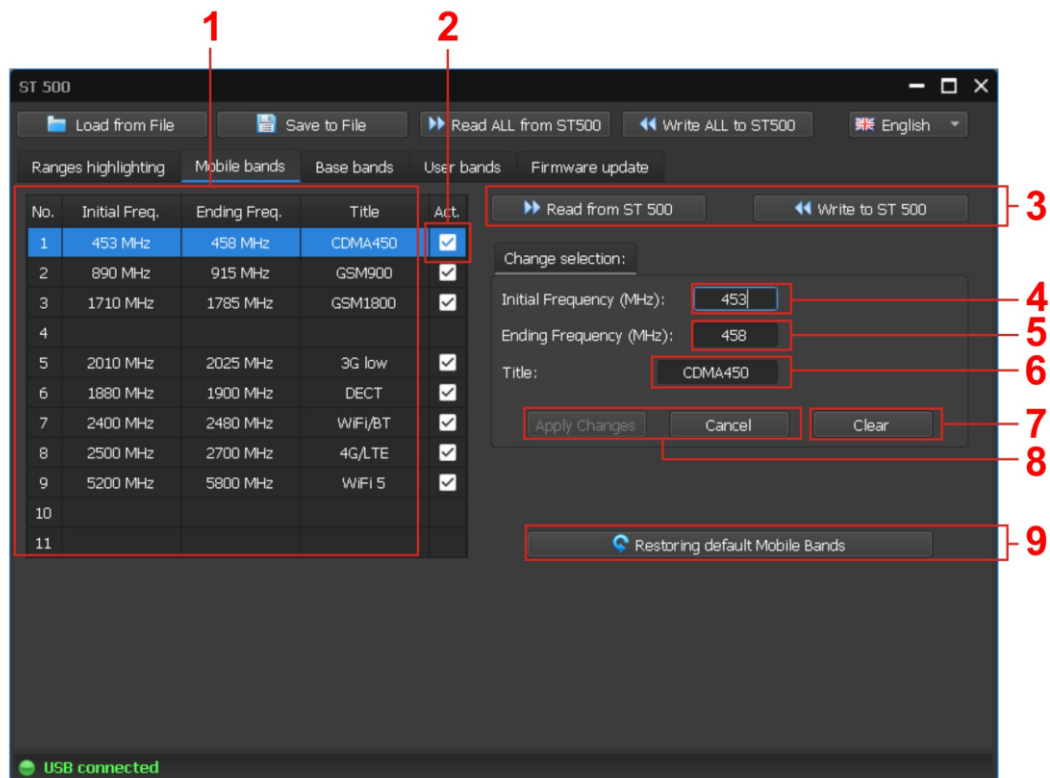

Fig.50
The mode is activated by selecting the "Mobile bands" tab. The device screen will look as shown in fig.50.
In fig.50:
1. Go to tab "Mobile bands". The PC screen will look as shown in fig.50
- initial (lower) and/or ending (upper)band frequency (fig.50, 4,5)
- name or comment on the band (fig.50, 6)
- tick highlighting on/off (fig.50, 2)
- initial (lower) and ending (upper) band frequency (fig.50, 4,5)